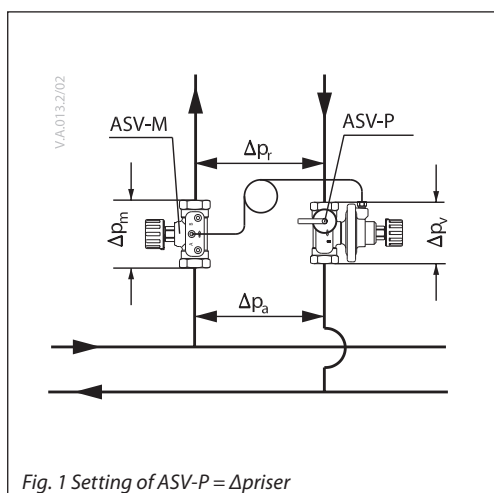

Fig. 1 Setting of ASV-P = Δp_{riser}
- partner valve outside the control loop (Fig. 1). Recommended configuration: it results in best performance since whole controlled pressure range is available to the riser. Flow limitation is done on each terminal unit in the riser (for example, RA-N with presetting on radiator, etc).